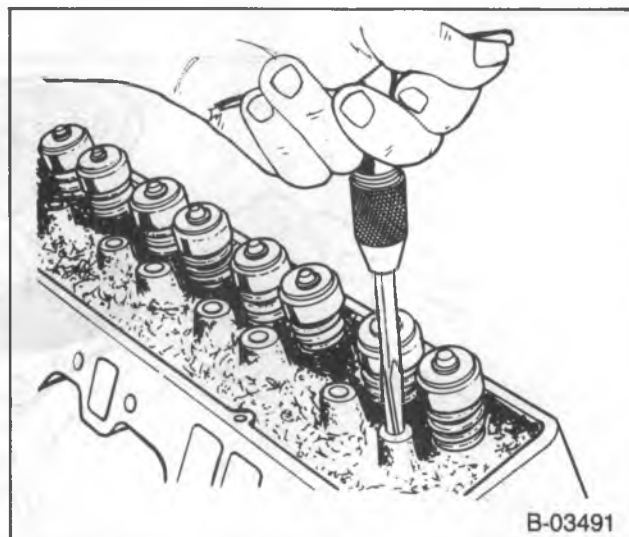

Figure 37—Reaming the Rocker Arm Stud Bore
2. Ream the hole to the proper size for the replacement oversize stud. Use reamer J-5715 for 0.003-inch oversize studs; reamer J-6036 for 0.013-inch oversize stud (figure 37).